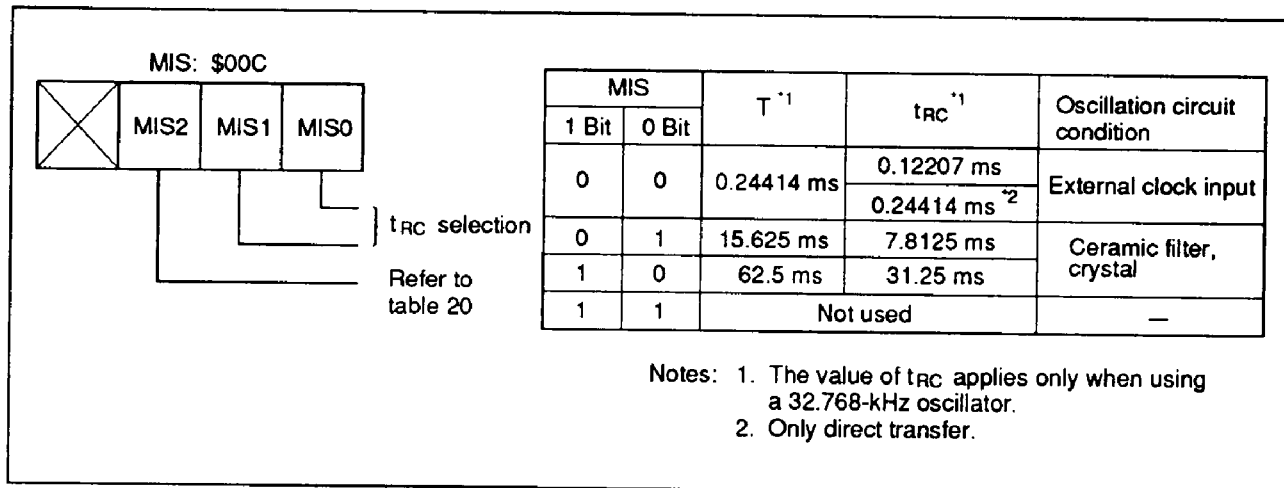

Figure 30 Miscellaneous Register
Interrupt Frame: In watch and subactive modes, ϕ_{CLK} is supplied for timer A and the \overline{INT}_0 circuit. Prescaler W and timer A operate as time bases to generate interrupt frame timing. Three interrupt frame cycles (T) can be selected by the settings of the miscellaneous register, as shown in figure 30.